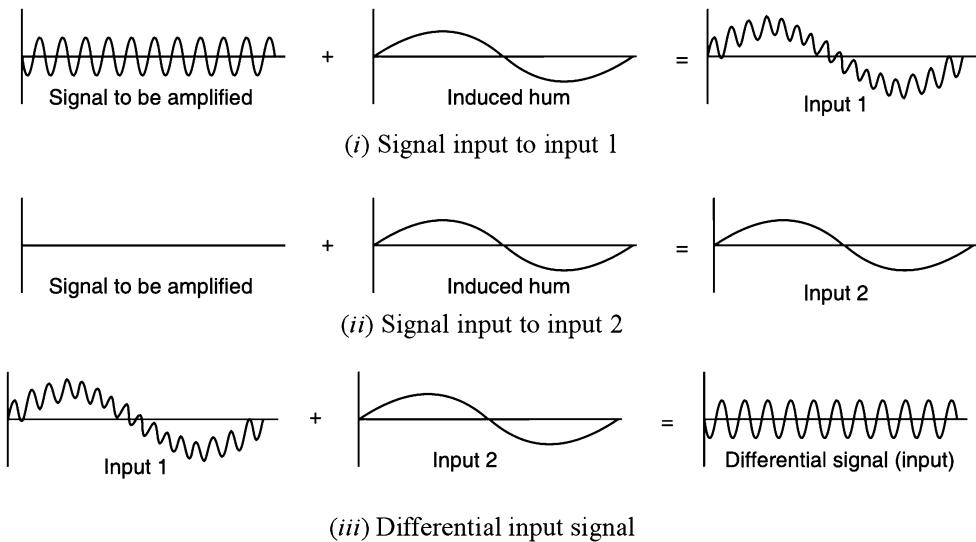

Fig. 25.13
**Practical Illustrations.** Fig. 25.13 shows how a differential amplifier (*DA*) rejects hum and static voltages induced into its input leads.
(i) In Fig. 25.13(i), the signal is applied to input 1 of the *DA*. However, a low frequency *hum* voltage is also induced into the lead wire. This *hum* is produced due to building and collapsing magnetic field generated by adjacent conductor carrying 50Hz current. The resultant waveform is shown in Fig. 25.13 (i). If this waveform is amplified by a conventional amplifier, the 50 Hz *hum* in the output will be stronger than the desired signal.
(ii) However, a DA also has second input (input 2). Therefore, the lead of second input has the same phase 50 Hz hum induced into it. This is the only voltage (*i.e.*, hum) applied to input 2 as shown in Fig. 25.13(ii).
(iii) As shown in Fig. 25.13 (iii), the hum components of the two inputs form a common-mode signal which is largely rejected by the DA. If the input hum signals are equal at the input, then differential input to DA will be devoid of hum. Therefore, the amplified output of DA will be free from the hum.